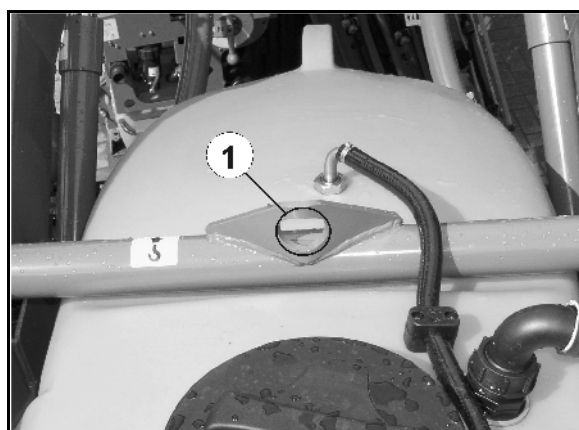
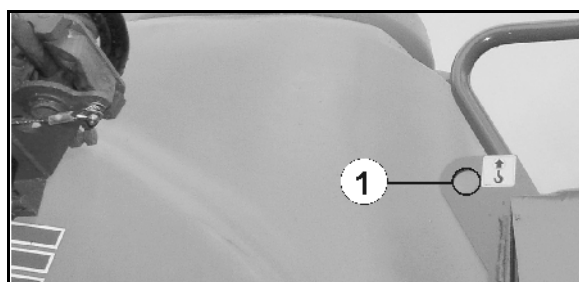

Fig. 93
Fig. 94
- 3000 kg rear (Fig. 93)
- 1500 kg front (Fig. 94 / Fig. 95)!
There are 3 indicated points on the machine (Fig. 93/1, Fig. 94/1, Fig. 95/1).